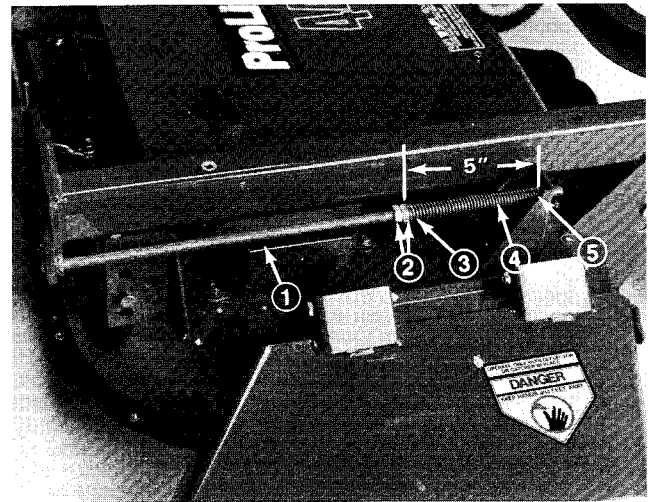

Figure 4
2. Thread two (2) jam nuts on each adjusting shaft approximately 9 in. (Fig. 4).
4. Insert spring end of adjusting shaft into hole in deck mounting bracket and other end into carrier frame mounting tab. Small end of bushing fits into hole in deck bracket (Fig. 4).
5. To tension belt, tighten front jam nut on each adjusting shaft until springs are compressed 5 inches. Measured between washer and bushing (Fig. 4). Secure rear jam nuts.